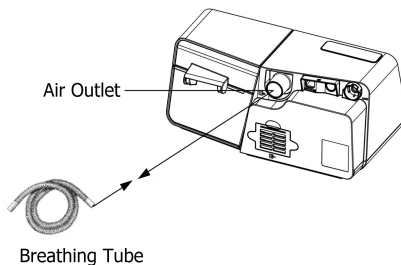

Fig. 12-5
(1) Connect one end of the breathing tube to the air outlet of the device, as shown in Fig. 12-5.